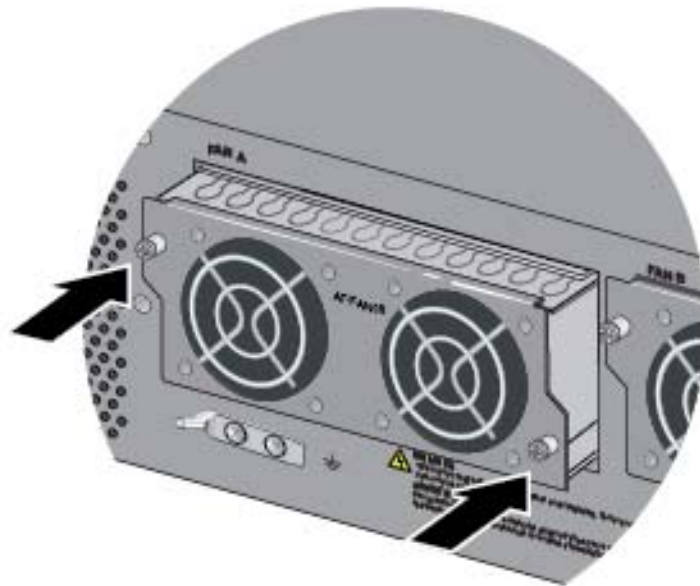

Figure 114. Seating the AT-FAN08 Module on the Connector in the Chassis
2. When you feel the module make contact with the connector inside the chassis, gently press on both sides to seat the module on the connector. Refer to Figure 114.